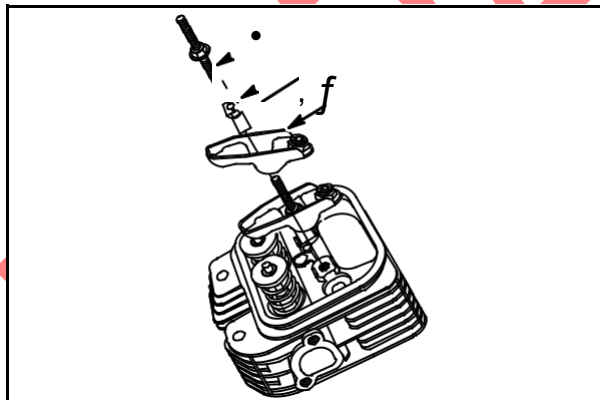
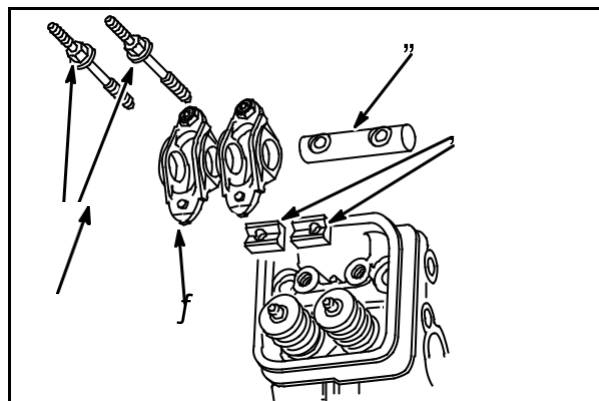

Fig. 21
Fig. 22
Remove two rocker studs (1) supports (2) and rocker arm assemblies (3), **Fig. 21** (current) or **Fig. 22** (early). Remove rocker arm shaft (4, early versions).